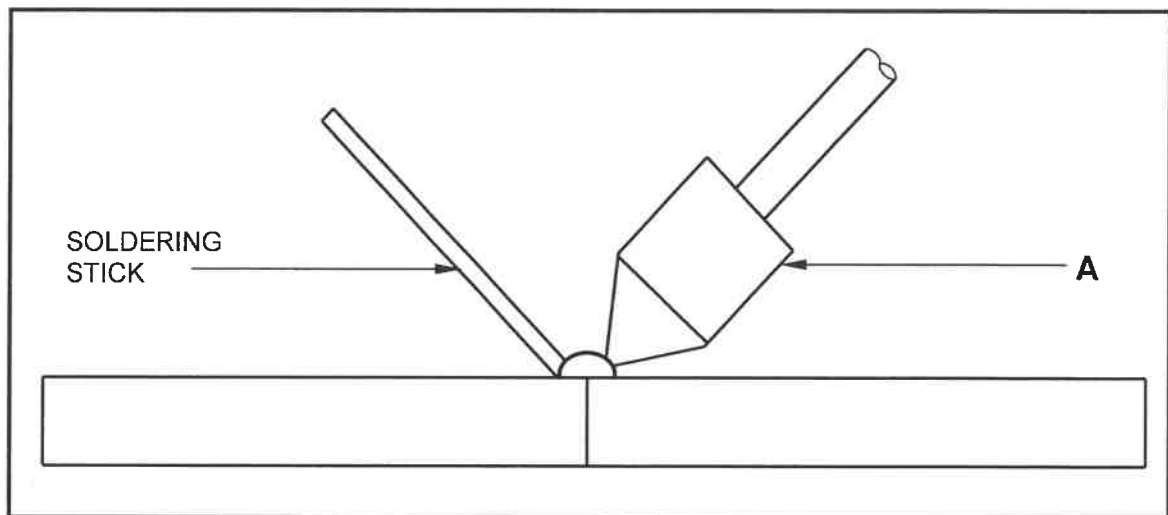

FIGURE 6.3
- 6.3 FIGURE 6.3 below illustrates the soldering process. Study the figure and answer the questions that follow.